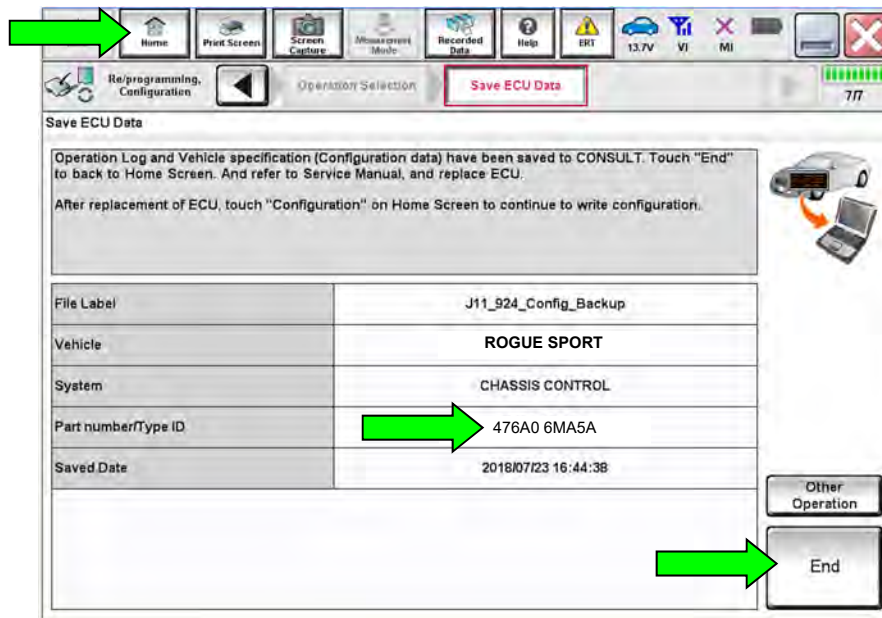

Figure 9
20. Write the "Part number/Type ID" on the repair order (see Figure 9).